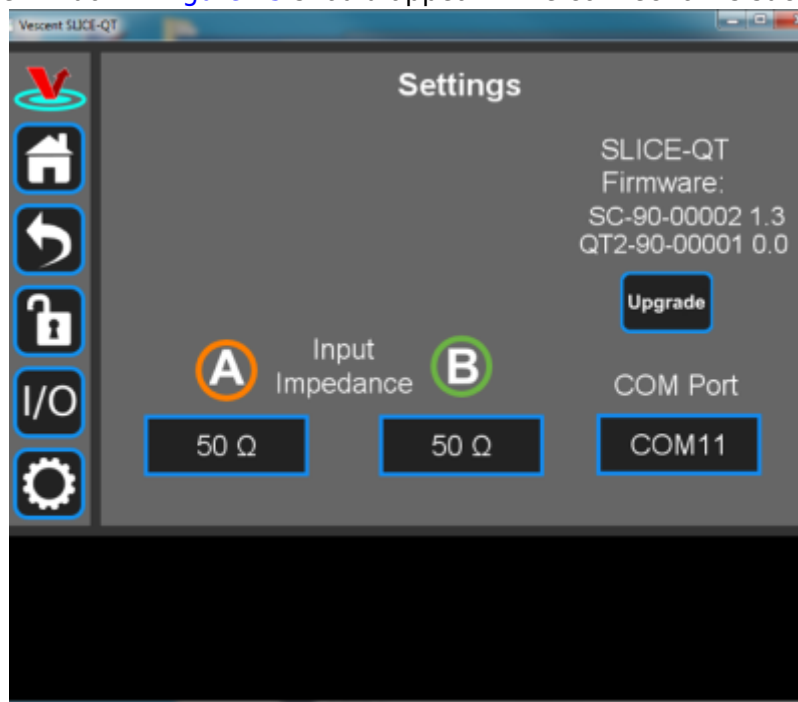

Fig. 45: Ready to upgrade
8. Select the COM port identified in the step above (usually the last COM port in the list; COM11 in this example). The window in figure 45 should appear if the connection is successful.